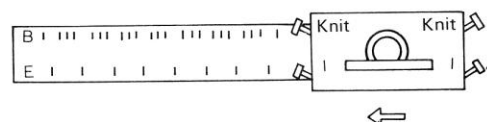

Fig.71
Bring forward into position (E) every 4th needle starting from the 2nd needle from right end. (Fig.71)